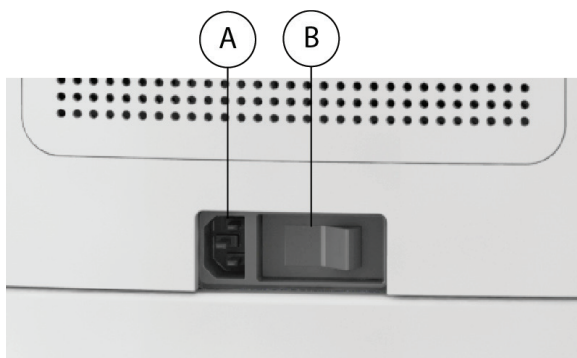

Figure 4: Close-up of power receptacle and power switch
3. Press the power switch on the back of the control unit to the “On” position (Figure 4).